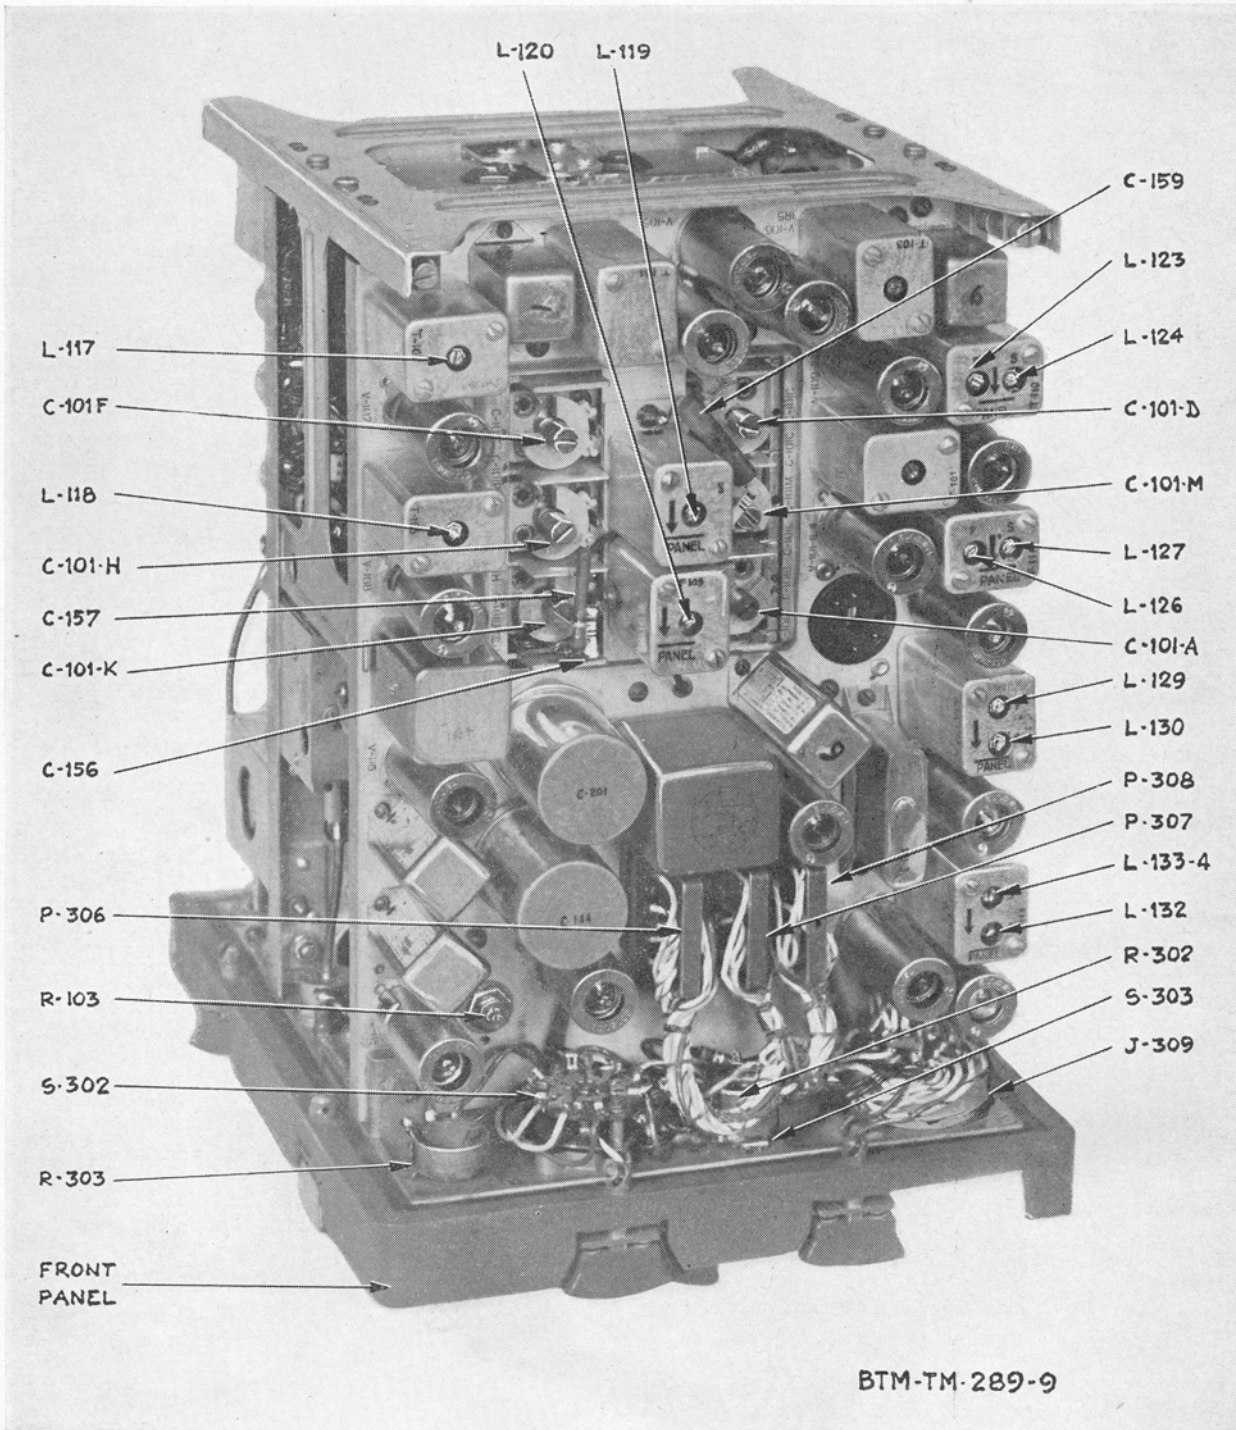

Figure 6.
(3) The i-f chassis (figs. 6 and 39 through 42) mounts the components of the variable and fixed receiver i-f amplifier circuits, the re-